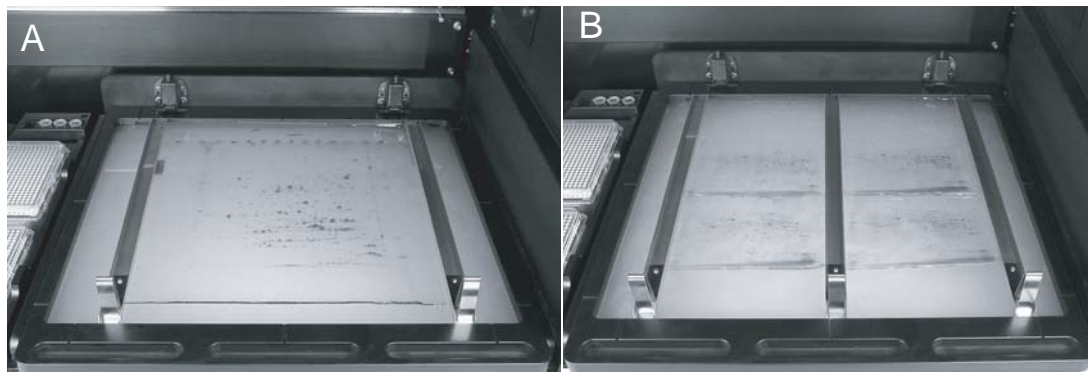

Figure 4-1. Gel placement for: A, Single gels; B, Multiple gels.
4. Clamp the gels and cutting mat in place with the gel clamps (see Figure 4-1). Use two clamps to hold a single gel in place or 2 to 4 clamps to hold 2 to 4 gels or broken gels in place. The gel clamps are installed by inserting the them into the cutting tray slots at the front and back of the gel tray (See Figure 4-1). The spring clip should be oriented to the front. The gel clamps should be slid tightly up against the sides of glassed backed gels or directly on all other types of gels and blots.